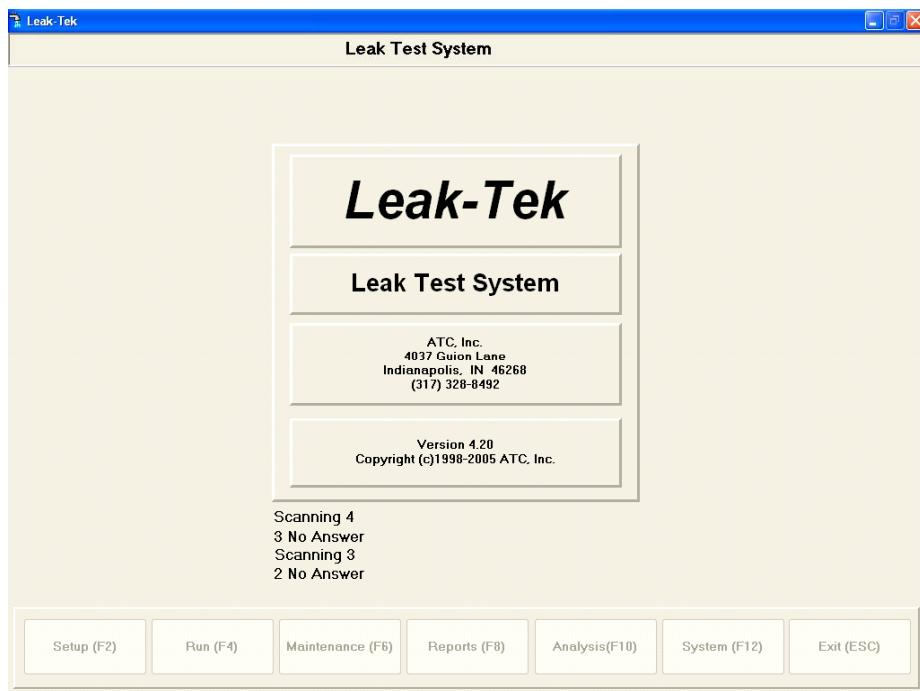

Figure 9 Leak-Tek Main Screen
4. If the previous port setting in INI exists and have sensors linked, the communication between sensor and PC will be established and the main operation screen will automatically show up as shown in figure 9.
The “Operation” screen, as shown in Figure 9, has one of the following screens to be chosen: